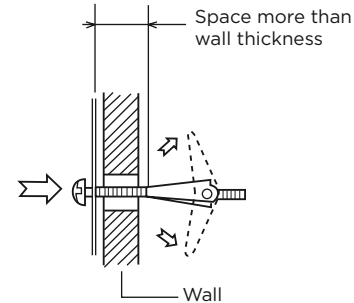

Figure 18
- Position the Mounting Plate with the Toggle Bolts attached at the wall location and insert Toggle Nuts and Bolts through the holes in the wall with the Toggle Nuts closed. Figure 18. Use Wood Screws ① to attach the Mounting Plate to studs.